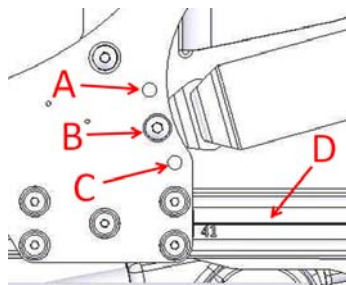

Figure 5-143
5.3.13.2 Use the #5 Allen Key Wrench and the #13 box end Wrench to remove the screw and nut. The pelvic belt can be installed at point A, B or C. Re-tighten the screw. (Figure 5-143)